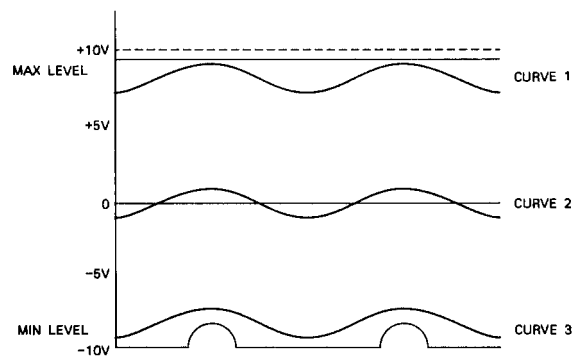

Figure 5-17. Waveforms.
- (5) Slowly increase AC voltage (0 to 30 VAC) while monitoring DC voltmeter (M1) and oscilloscope (M3). DC voltage reading on DC voltmeter (M1) shall increase proportionally with the increasing AC voltage and the voltage wave form trace of oscilloscope (M3) shall move toward a positive voltage level. A voltage shall also be indicated on meter DC voltmeter (M4). The waveform trace of oscilloscope (M3) swinging below the zero axis (negative) during this (0-30 VAC) test shall be indicative of an unusable/defective operational amplifier.
- (6) Increase AC voltage for a "maximum reading" on meter (M1) (35 VDC minimum) or until oscilloscope (M3) wave form is just starting to come off the "maximum level" refer to curve 1 of Figure 5-17.
- (a) If the AC voltmeter (M2) indicates 136 VAC or greater, proceed with step (7).
- (b) If the AC voltmeter (M2) indicates less than 136 VAC, proceed with step (8).
- (7) Perform the following adjustment procedures:
- (b) Slowly adjust R6 clockwise until oscilloscope (M3) wave form begins to decrease from "maximum level". DC voltmeter (M1) reading shall go to zero when wave form passes through zero. Refer to curve 2 on Figure 5-17.
- (8) Perform the following adjustment procedures.
- (b) Slowly adjust R6 counterclockwise until oscilloscope (M3) wave form begins to go up from "minimum level" (curve 3, Figure 5-17). M1 reading shall go to "maximum level" (35 VDC minimum) when wave form passes through zero.
- (9) Without further adjustment of R6, repeat the above procedure for the remaining three conditions tabulated in Table 5-3. In all cases, similar performance should be achieved.